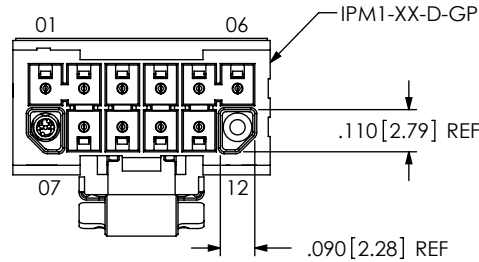

FIG 5
-G: GUIDE POST (USE IPM1-XX-D-GP) (LEAVE BLANK FOR NO POLARIZATION) (SEE FIG 5 SHEET 3)